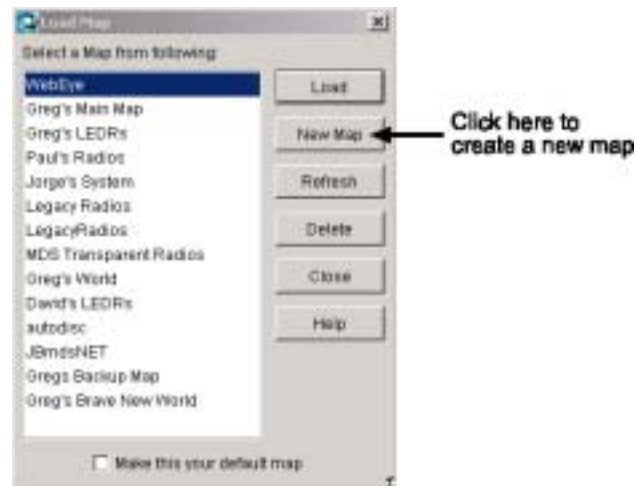

Figure 13. Load Map Screen
- b. With the map unlocked, select **File>>Load** to display the Load Map screen (Figure 13).